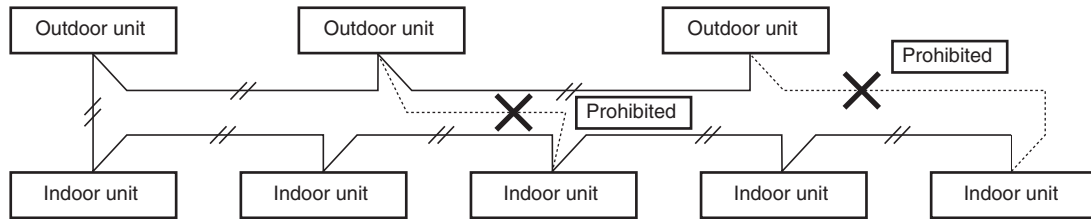

Fig. 4-4
- (2) Do not install the inter-unit control wiring in a way that forms a loop. (Fig. 4-4)